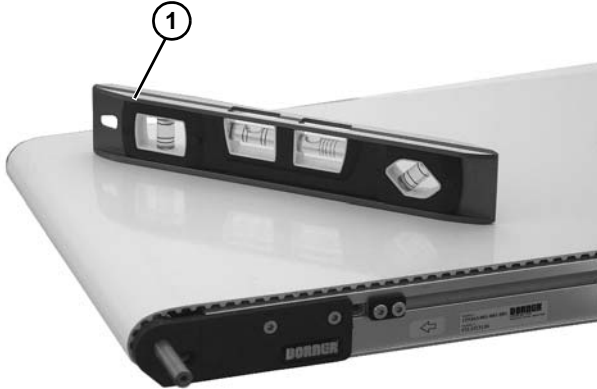

Figure 4
Conveyor **MUST** be mounted straight and level within confines of conveyor. Use a level (**Figure 4, item 1**) for setup.